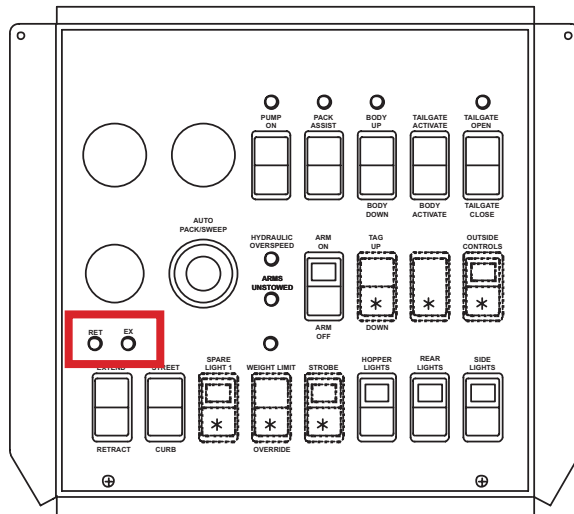

Figure 6
4. The second person in the cab must continue holding down the AutoPack/Sweep button and Retract switch until the RET and EX lights alternately blink (it may take about 5 seconds for the lights to blink) (Figure 6 shows where the RET and EX lights are on the control box).